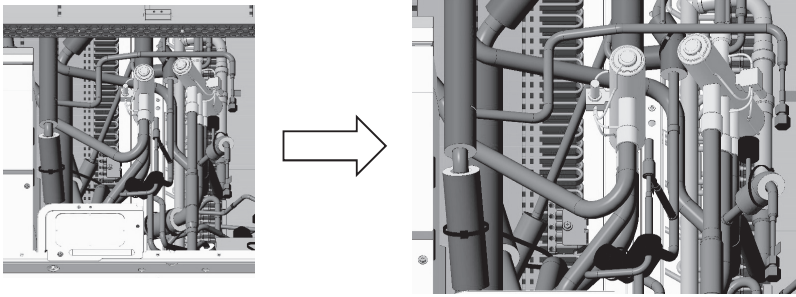

Figure 4
(3) Remove the pipe covers adjacent to the four-way valve. (Figure 4)